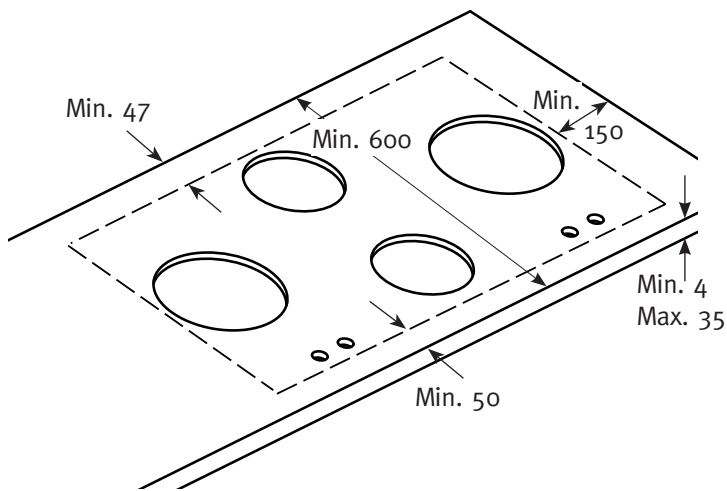

fig. 1
- Adjacent walls, cupboards and protection for combustible materials: Ensure that the appliance is installed in accordance with clauses 6.2.5 and 6.10.1.1 of AS/NZS 5601.1, or clauses 6.9.1 and 6.9.5 of AS/NZS 5601.2 with regard to clearances to combustible surfaces and materials, and clearances to rangehoods and exhaust fans. To ensure clearances of 150mm from burners to vertical combustible surfaces observe the minimum distance requirements shown in Figure 1. Clearances to combustible surfaces may be reduced if combustible surfaces are protected in accordance with clause 6.10.1.2 of AS/NZS 5601.1, or clause 6.9.2 of AS/NZS 5601.2.